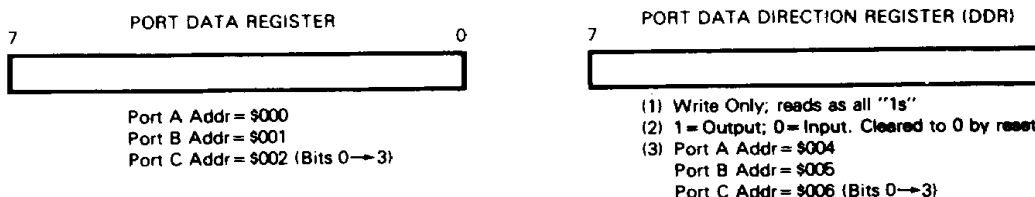

Figure 3. Typical Port I/O Circuitry and Register Configuration
When programmed as outputs, the latched output data is readable as input data regardless of the logic levels at the output pin due to output loading. The latched output data bit may always be written. Therefore, any write to a port writes all of its data bits, even though the port DDR is set to input. This port write may be used to initialize the data registers and avoid undefined outputs. Care must be exercised when using read-modify-write instructions since the data read corresponds to the pin level if the DDR is an input (0) and also the latched output when the DDR is an output (1). Refer to Table 1 for I/O functions and to Figure 3 for typical port circuitry.